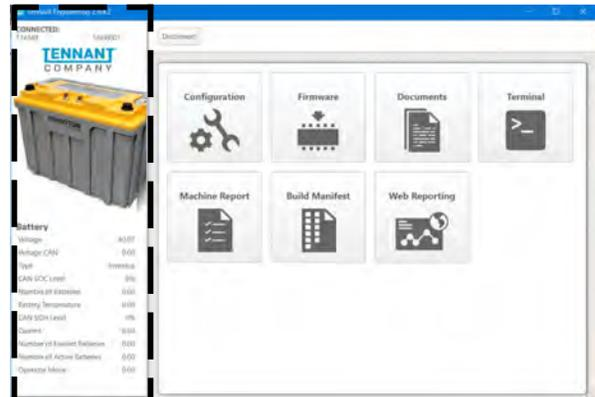

FIG. 61
59. Use the Service Diagnostics tool to access the lithium battery screen. (Fig. 61)
60. Observe the lithium battery information pane on the left side of the screen. Both the “Number of Batteries” and “Number of Active Batteries” should be four (4), and the “Number of Faulted Batteries” should be zero (0.00). (Fig. 62/ Fig. 61)